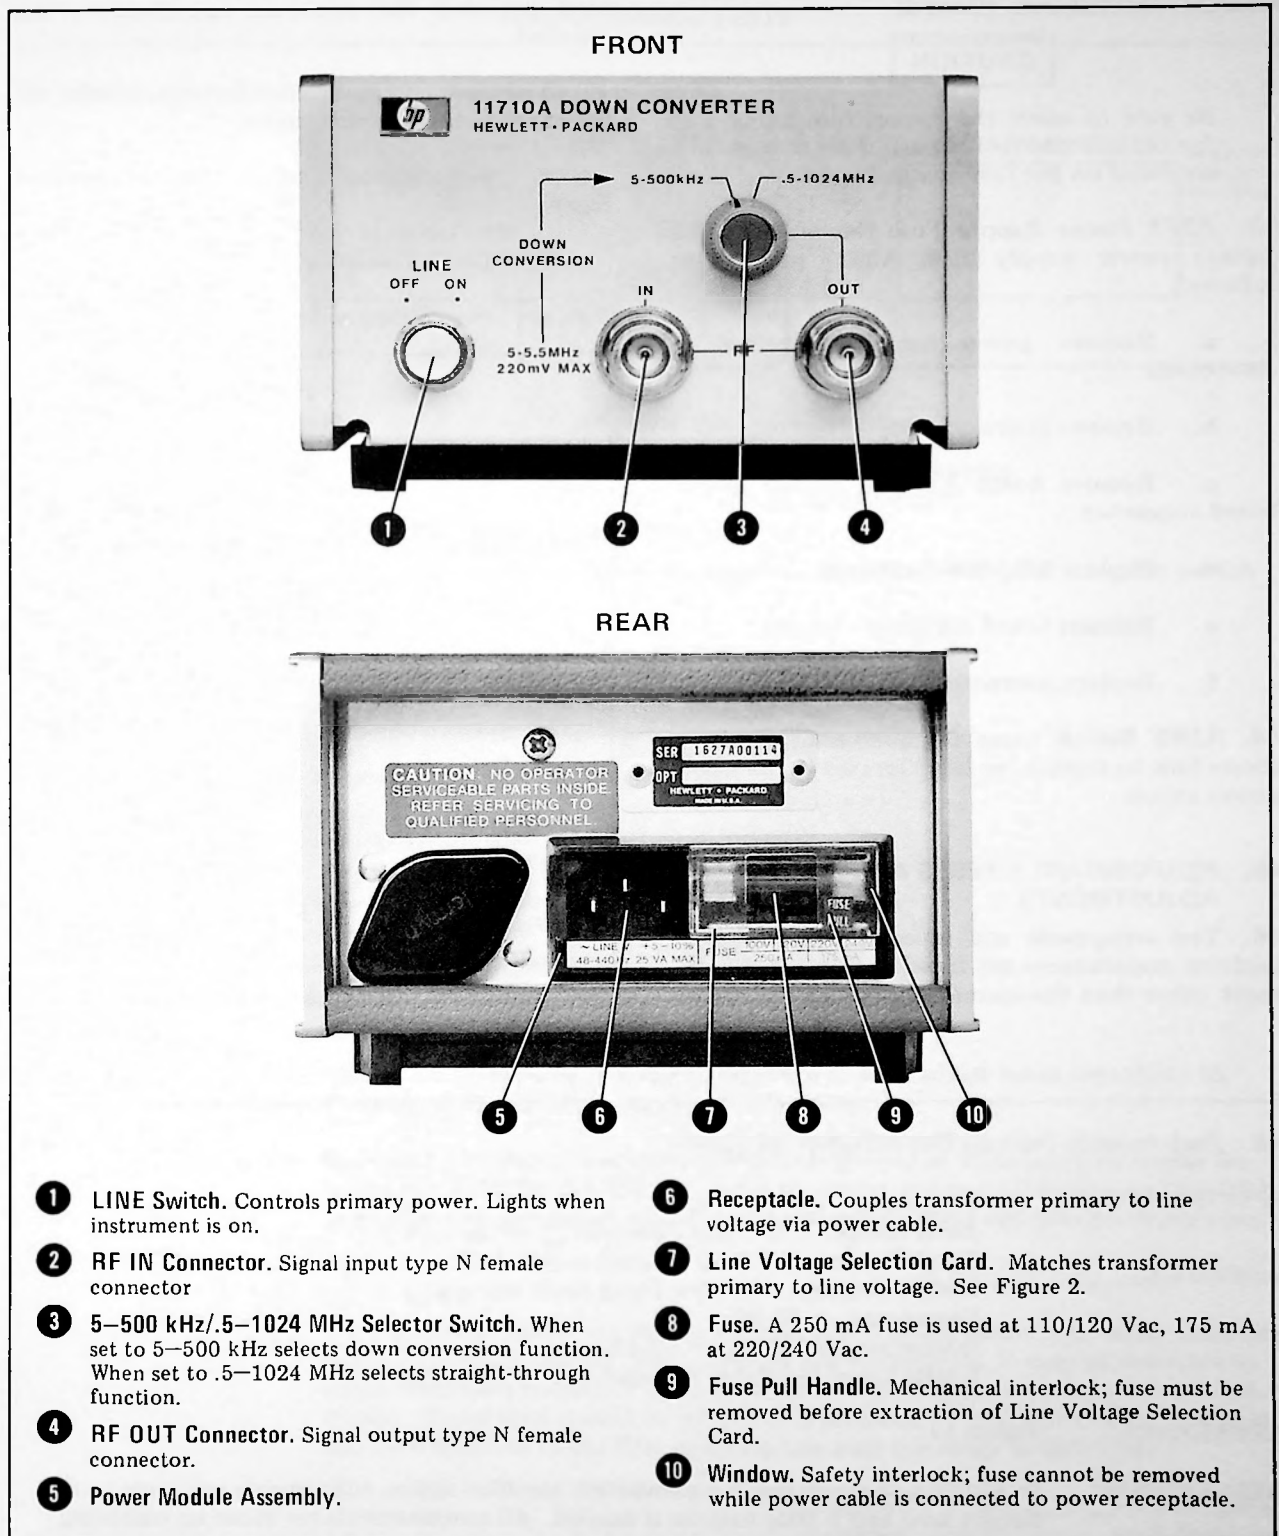

Figure 4. Front and Rear Panel Controls, Connectors, and Indicators
39. Controls and indicators of the 11710A are explained in Figure 4. To operate the instrument, proceed as follows: